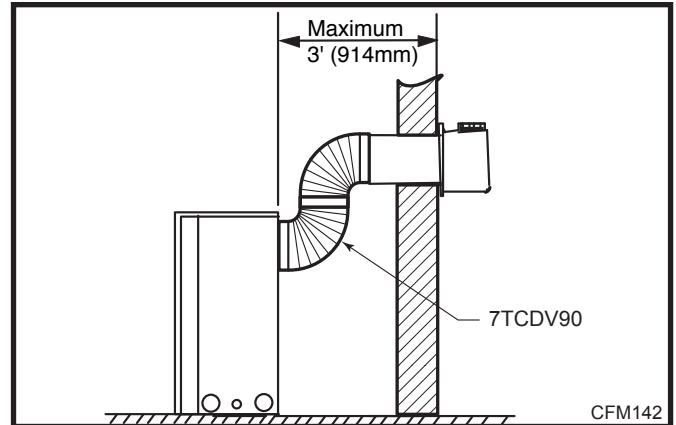
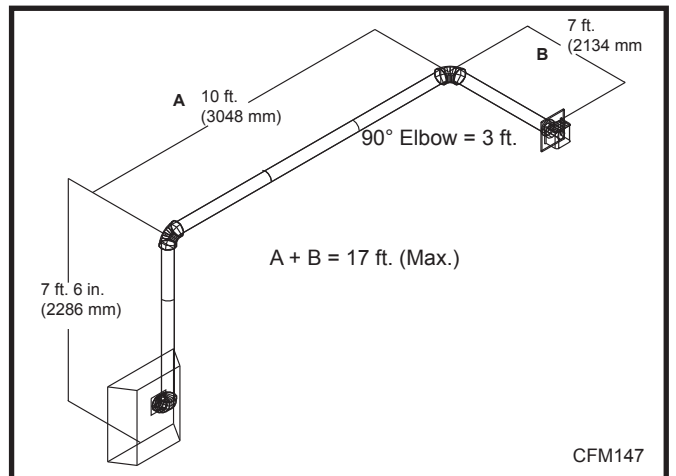

Fig. 27 Maximum horizontal vent run.
Fig. 28 Maximum vent run with elbows.
- The maximum number of 90° elbows per side wall installation is three (3).
- If a 90° elbow is used in the horizontal vent run (level height maintained) the maximum horizontal vent length is reduced by 36" (914 mm). (Fig. 27) This does not apply if the 90° elbows are used to increase or redirect a vertical rise. (Fig. 28)
Example: According to the chart the maximum horizontal vent length in a system with a 7.5' (2.3 m) vertical rise is 20' (6 m) and if a 90° elbow is required in the horizontal vent it must be reduced to 17' (5.2 m). In Figure 28 Dimension A plus B must not be greater than 17' (5.2 m).